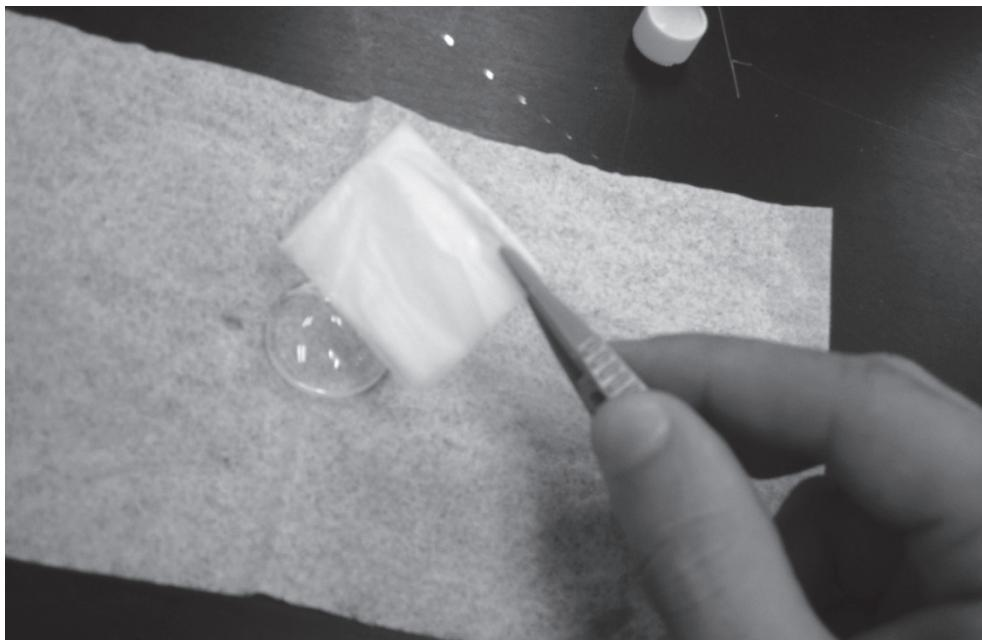

Figure 15 – Forceps and Pad Cleaning Method
1. Fold lens tissue into a square about the same size as the optic to be cleaned. Refer to Figure 15.